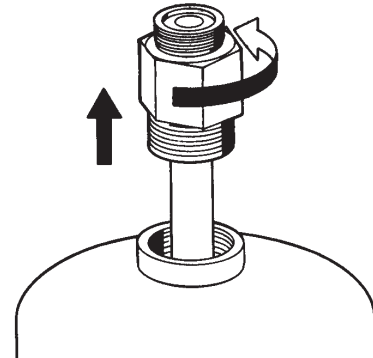

FIGURE 2
8. Remove tank adaptor/tube assembly from each tank. See Figure 2. If evidence of corrosion, replace assembly.